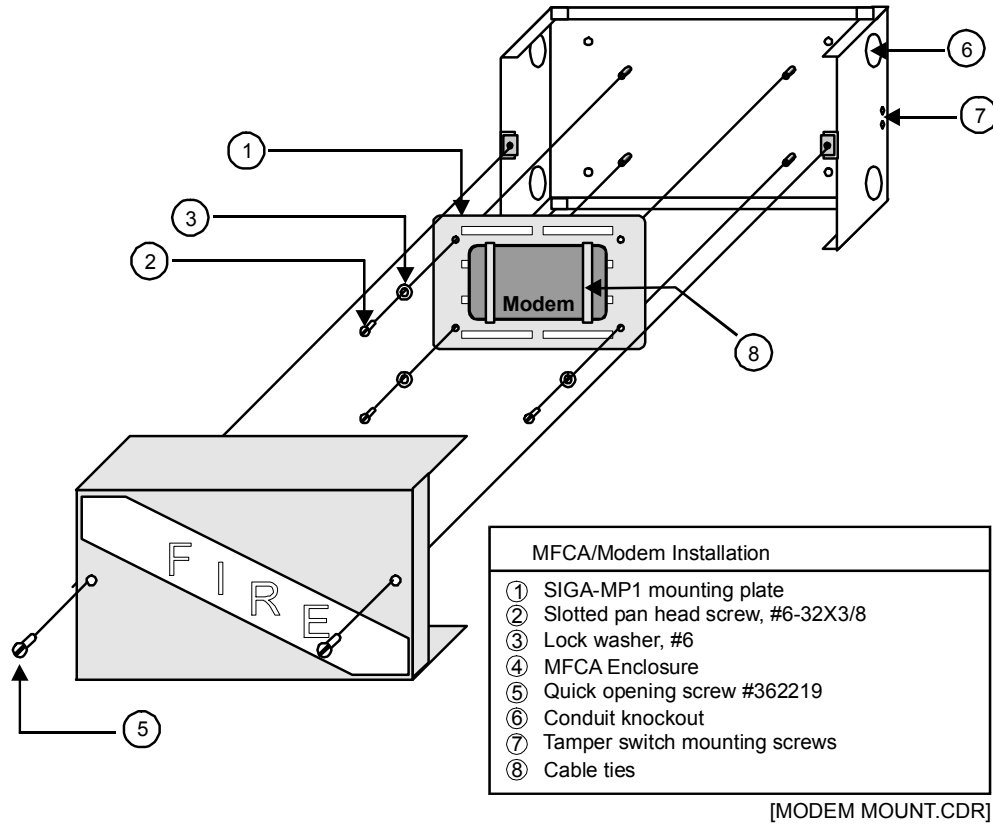

Figure 5-7: Suggested modem installation using MFCA and SIGA-MP1
1. Mount the MFCA enclosure back box at an acceptable location within reach of the panel. Refer to Figure 5-7.